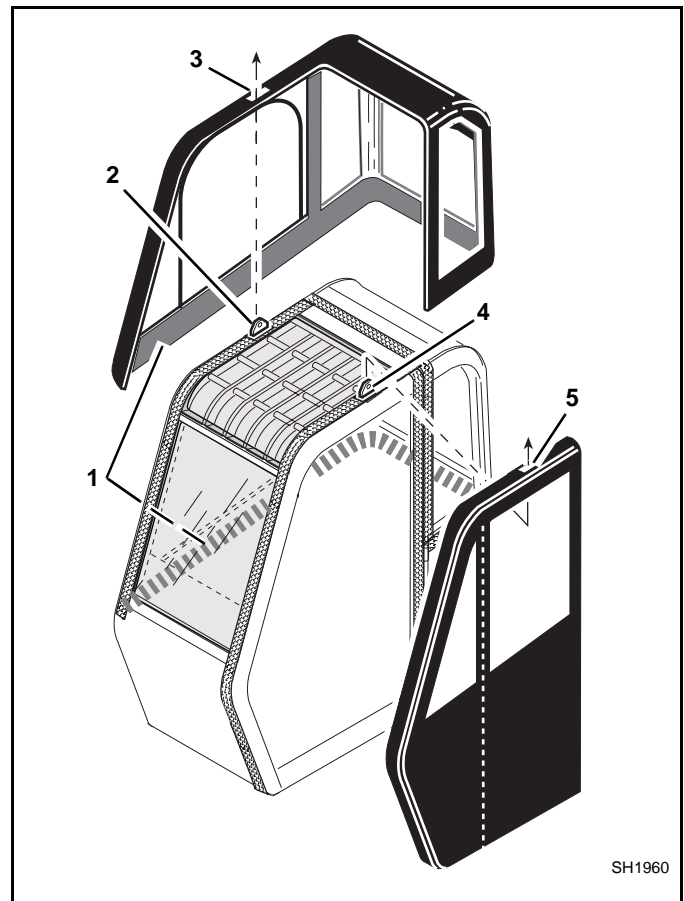

Figure 10
1. **Main Cab Enclosure section.** Install main cab enclosure by placing it around the back of the cab and aligning the edges of the right side window (Figure 10, 1). Be sure the lifting plate (2) on top of the cab fits through the opening (3) in the soft cab enclosure. Adjust and reposition as needed for a snug fit and then press all edges firmly into position.
2. **Door section.** Close the zipper and place the door section on the cab. Be sure the lifting plate (Figure 10, 4) on top of the cab fits through the opening in the top edge of the door section (5). Adjust and reposition as needed for a even fit, then press all the edges firmly into position.